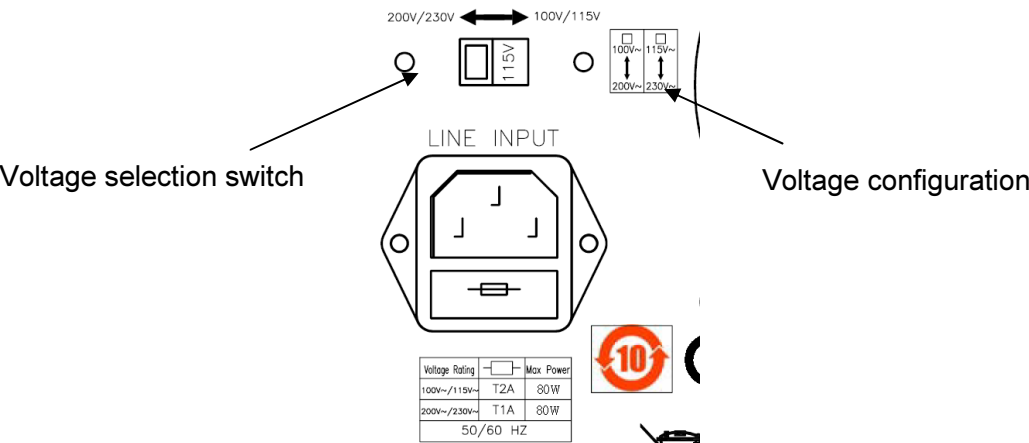

Fig 2-1 SET OF SWITCH
- 2.2.2. Refer the drawing on the rear panel of 3350F Series high power load in Fig 2-1, set the switches to the proper voltage as describe in the following: